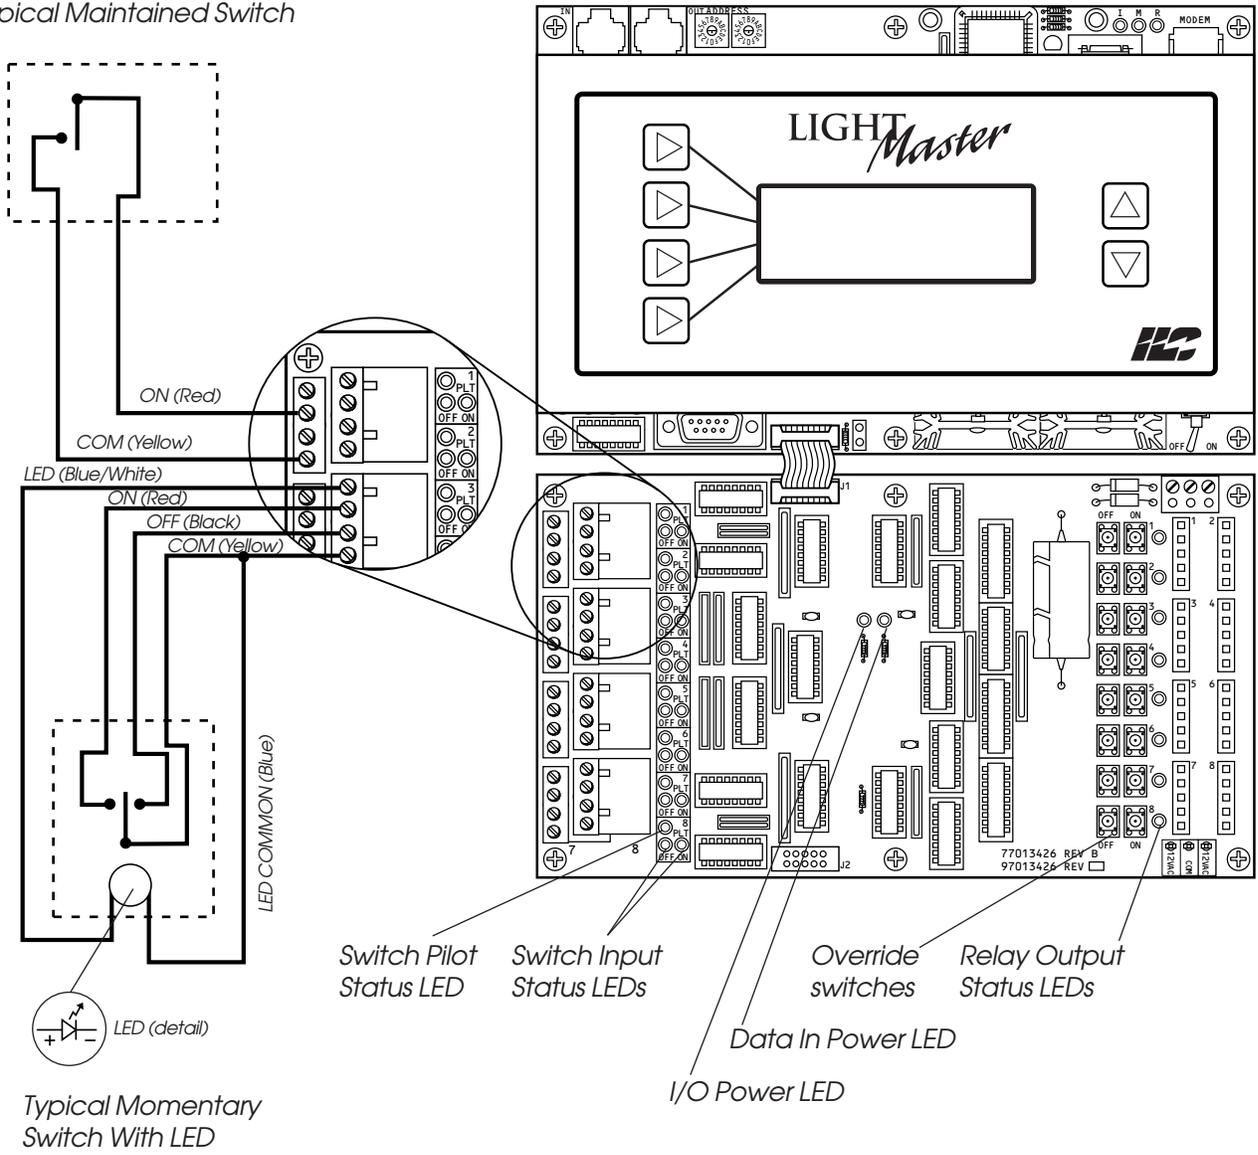

Figure 2.2 – Wire Class 2 Switch Circuits
2.3.3 Wire Switch Inputs – Wire the Class 2 switch circuits. (See Figure 2.2.) **NOTE:** If the project requires LightSync™ switching, consult Section 4.
Switch each relay ON and OFF, pushing the override switches located on the I/O board(s). There are separate ON and OFF switches for each lighting relay. (See Figure 2.2.) Verify that the relay status LED goes ON and OFF and that the relay itself changes state. Verify that the relay controls the proper circuit.